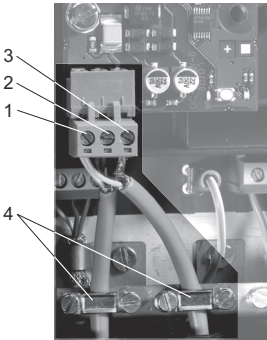

Fig. 4 Connecting the LON module
See fig. 4.
1. Connect the conductors to terminal A (pos. 1).
2. Connect the conductors to terminal B (pos. 2).
3. Connect the twisted screen ends to terminal "Screen" (pos. 3).
The screen must only be connected to the screen terminal of the CIM 110 LON module. See fig. 4, pos. 3.
The cable screen must never be connected to earth via the earth clamp. See fig. 4, pos. 4.